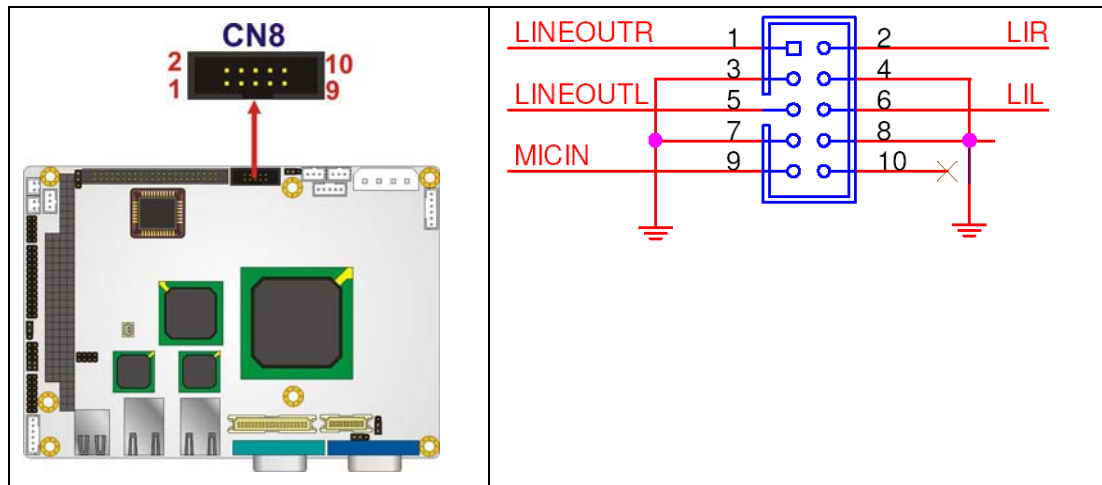

Figure 4-6: Audio Connector Pinouts (10-pin)
- CN Location:** See **Figure 4-6**